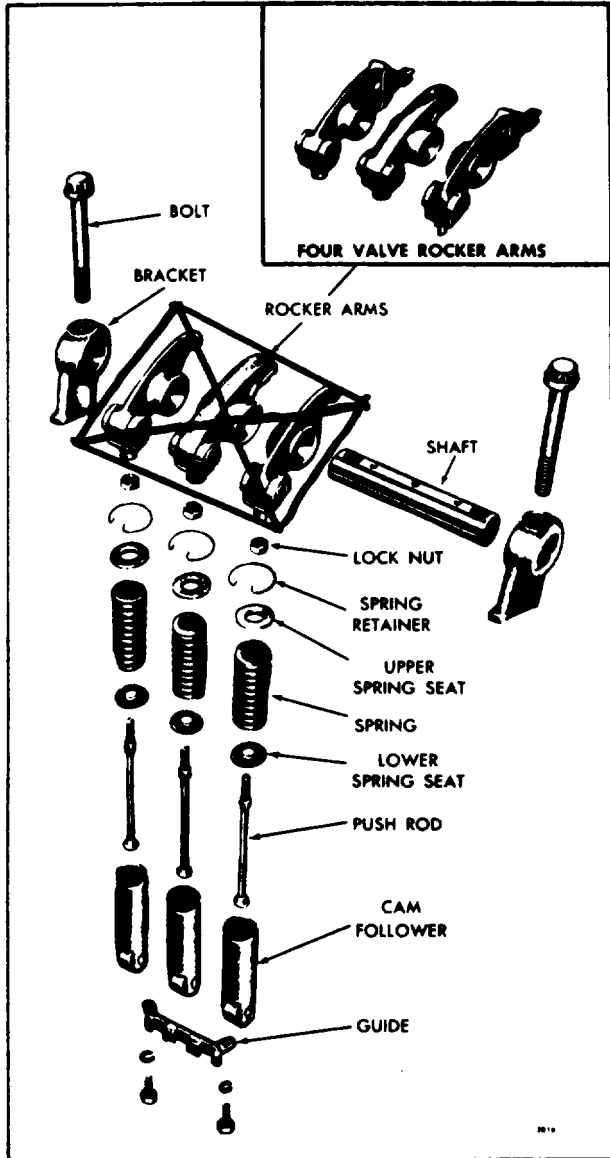
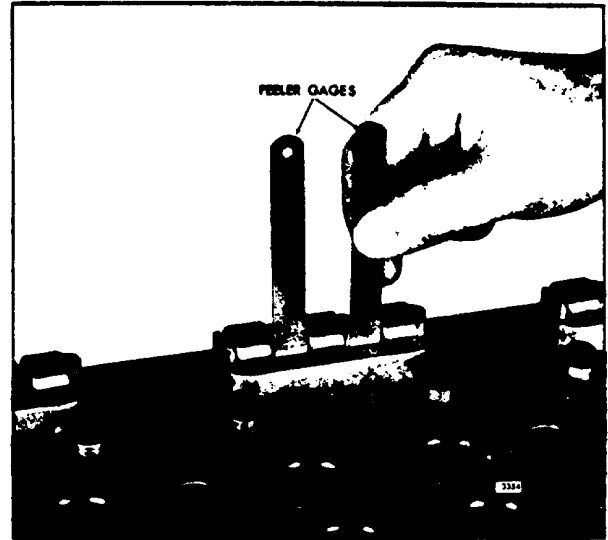
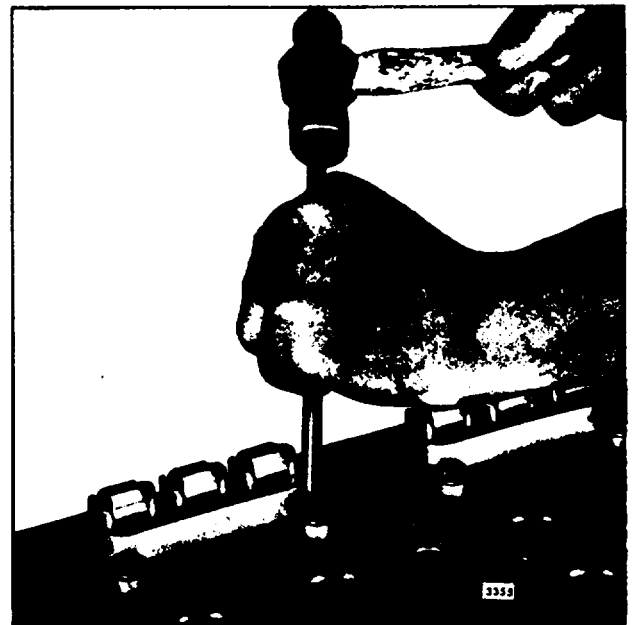

Fig. 8. - Valve and Injector Operating Mechanism Details and Relative Location of Parts
Fig. 9. - Checking the Clearance Between the Cam Follower Guide and Cam Follower Legs
Fig. 10. - Adjusting Cam Follower Guide
8. Attach the cam follower guide (Fig. 8) to the bottom of the cylinder head to hold the group of cam followers in place. Tighten the cam follower guide bolts to 12-15 lb-ft torque. Check to be sure there is at least .005" clearance between the cam follower legs and the cam follower guide (Fig. 9). If there is insufficient clearance, loosen the guide bolts slightly and tap each corner of the guide with a brass rod (Fig. 10). Then retighten the bolts to 12-15 lb-ft torque and recheck the clearance.